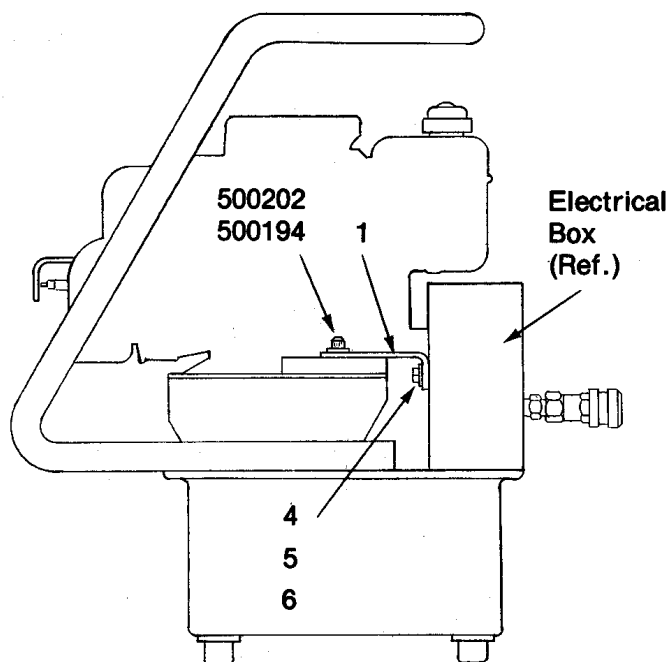

Figure 2
3. Remove engine mounting screw, P/N 500202, and washer, P/N 500194, nearest electrical box. Use 3/8 in. hex key. Loosely attach second Strap (1) to engine mount with angle pointing down. See Figure 2. Attach angled end of strap to electrical box using Screw (4), Lockwasher (5) and Nut (6). Tighten screws.